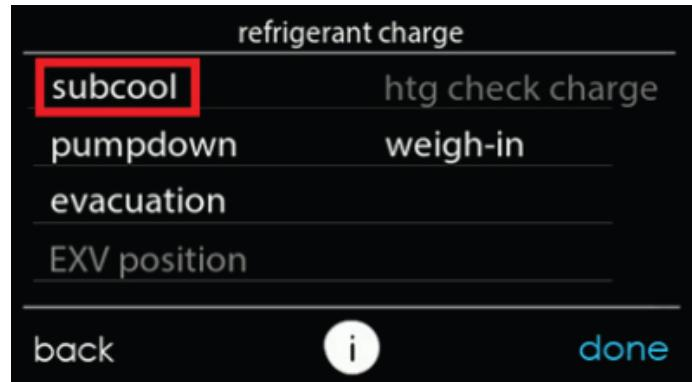

Fig. 15 – Select Refrigerant Subcooling
5. If the outdoor ambient temperature is between 65°F and 105°F and the indoor temperature is between 65°F and 80°F then select "subcool" (See Fig. 15). Steps 6 - 9 are to perform the subooling method.